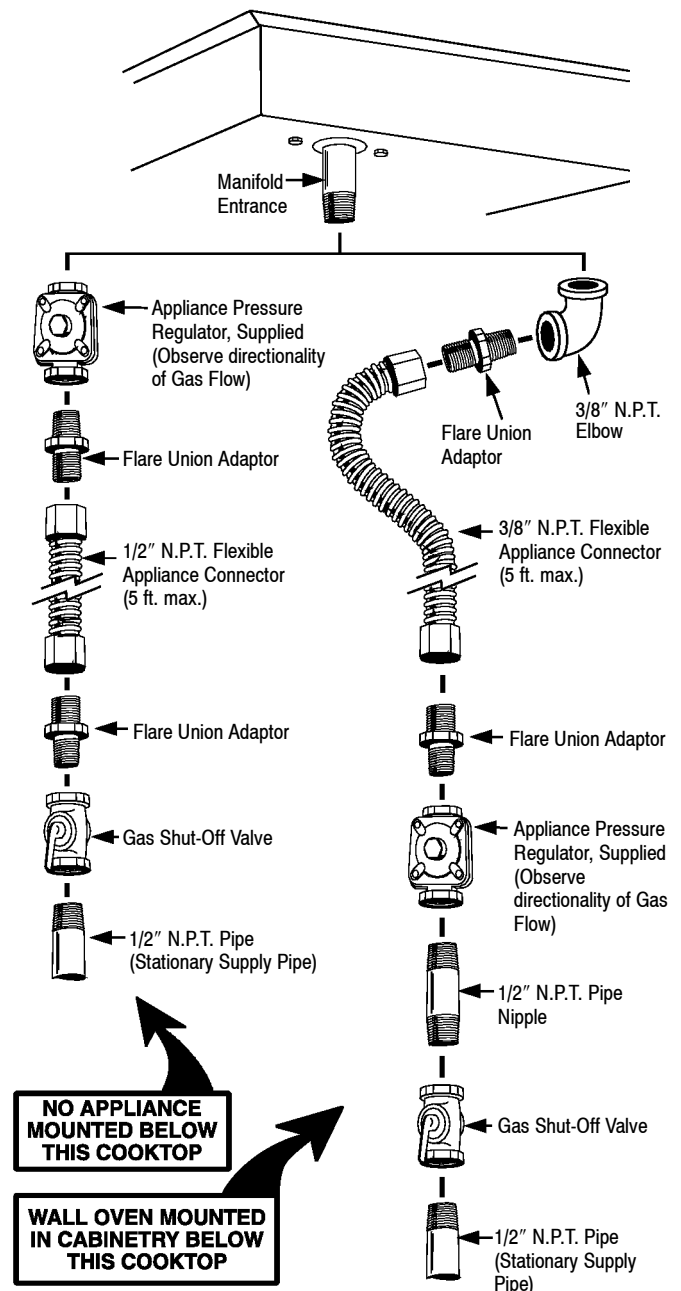

FIGURE 5
- If the alternative piping method shown in figure 5 is selected for the installation, no union is required. (The flexible appliance connector illustrated provides the union joints necessary for servicing.) When a dividing wall is present and a flexible connector is used it is recommended for convenience, in both installation and service, the flexible connector, itself, pass through the dividing wall. **Any flexible connector used with this appliance must satisfy all requirements stated in the text accompanying figure 5.**
Unless prohibited by local codes or ordinances, a new A.G.A. - Certified, flexible metal appliance connector may be used to connect this appliance to its gas supply. The connector must be no more than 5 feet in length. Per figure 5, use appropriate flare union adapter at each end of the flexible connector. If a flexible connector is used assure that both the appliance pressure regulator and manual shut-off valve are joined solidly to other permanent hard piping (either gas supply or the appliance manifold) so as to be physically stationary. See illustrations below: